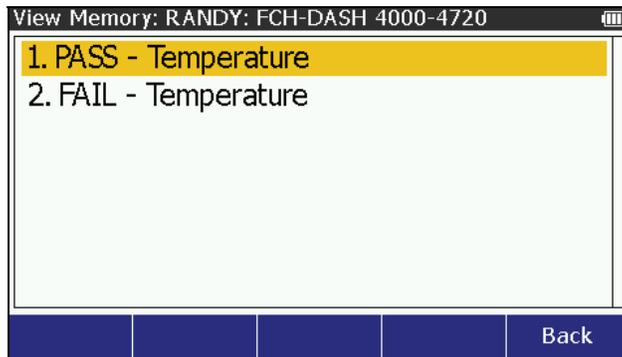

Figure 59. Test Results Screen
8. Push  to show the test results data saved for the test ID. See Figure 59.